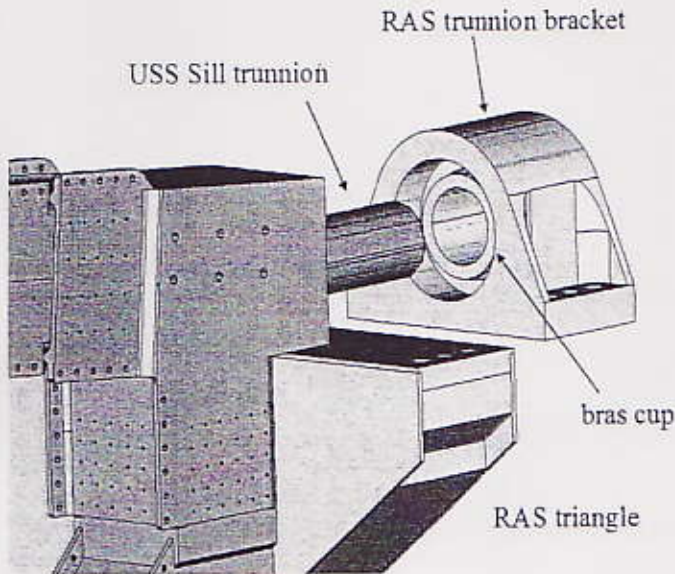

Figure 5. RAS trunnion brackets sliding out from Sill Trunnion
10. Lift the payload ~5mm and remove the RAS trunnion brackets by sliding them off together with the brass cups protecting the trunnions (Figure 5). Store RAS trunnion brackets for reuse at a later date.